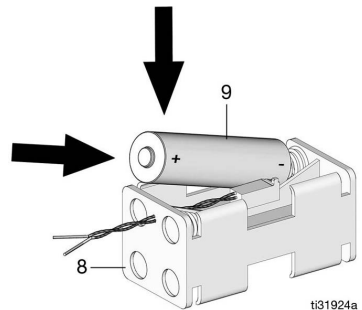

FIG. 11
3. Remove all four AA batteries from the battery holder (8). Discard batteries in an approved battery disposal container.
4. Install four, AA, alkaline batteries (9) in the battery holder (8) as shown in FIG. 11. Make sure batteries lie flat in holder.